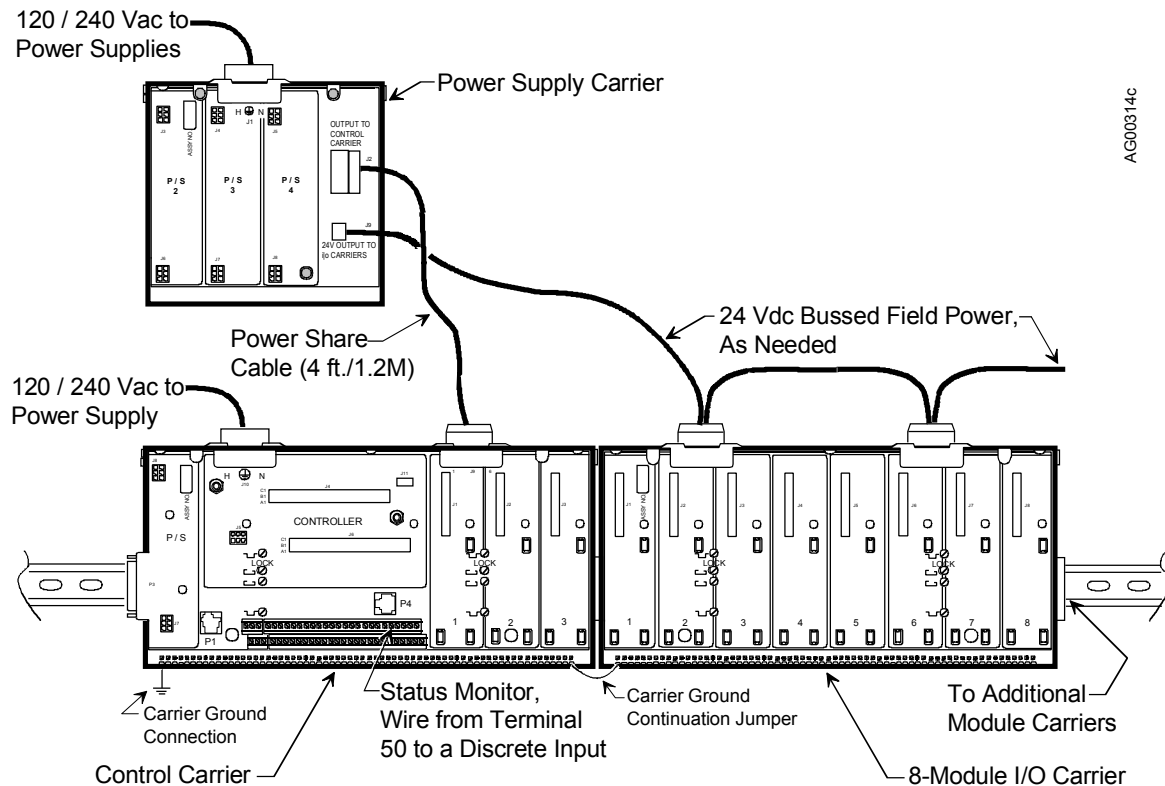

FIGURE 1 Power Supply Carrier and Cabling
This chapter describes installation of the i|power™ power supply carrier. Install the carrier on a flat panel at an i|pac network node (i.e. control carrier). Figure 1 shows the power supply carrier and typical cabling. The carrier is not intended for DIN rail mounting.
1. Select a mounting location for the power supply carrier that is near the control carrier. Refer to Figure 1 for carrier interconnections. Power share cable length is 4 ft/1.2M. Be sure that it will interconnect the power supply and control carriers.